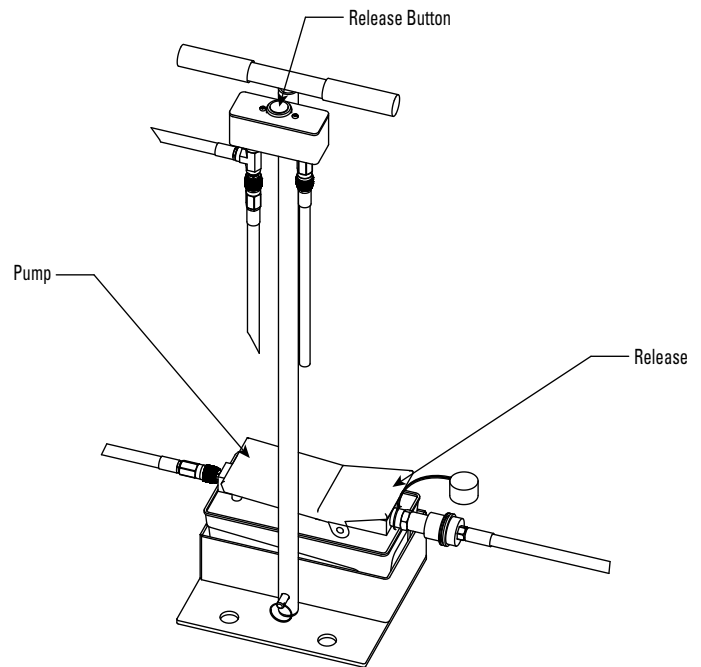

Figure 48
16. Disengage the Safety Latch by pressing the Release Button on the Air Valve on the Pump Stand and lower the lift completely by pressing the release portion on the pedal of the Lift Pump (see Figure 48).